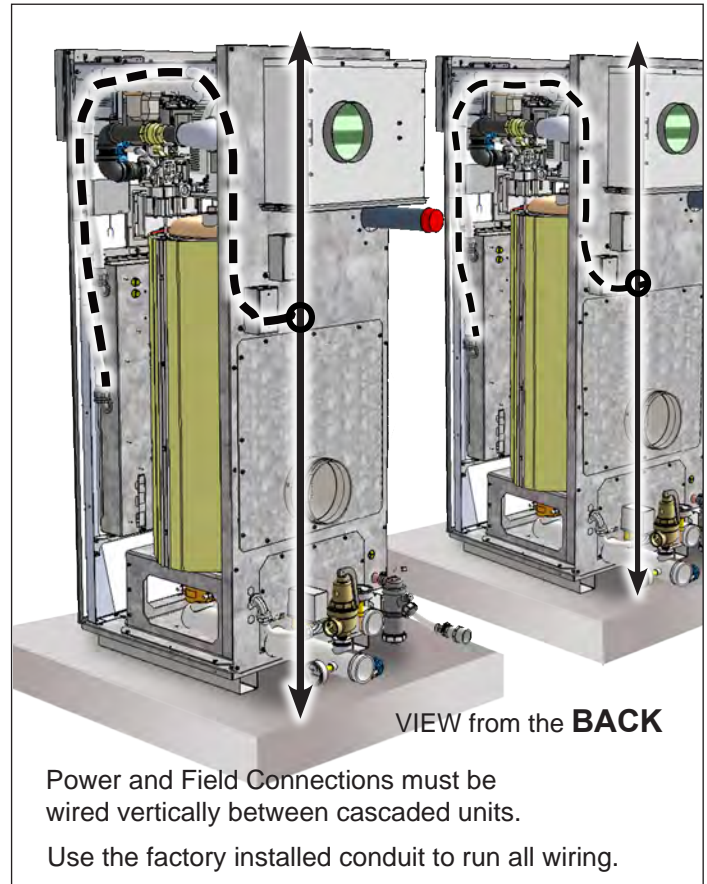

Figure 11. Wiring Access
This unit is provided with an electrical junction box on the rear panel for main power connections. See Figure 11. All power wires are factory installed between this junction box and the main high voltage box at the front of the unit. The unit is available with multiple voltage packages to adapt to customer needs ranging from 120-600 volts with single or 3 phase versions. Refer to the rating plate and Table 12 for appropriate voltage and current ratings.
**All power connections must be run through the back panel as shown in Figure 11.**
Wiring for all field connections must be run through the available electrical conduit to the back of the unit. See Figure 11.